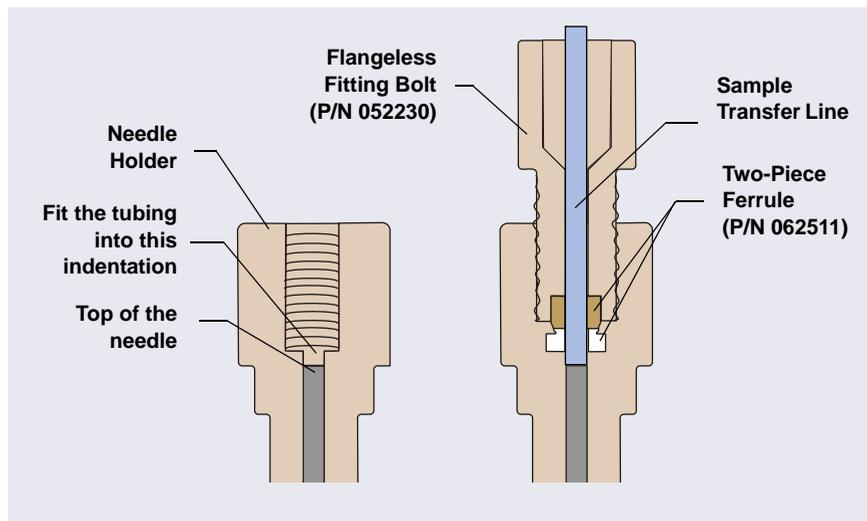

Figure B-31. Cross-Section of Needle Holder and Sample Transfer Line Fitting
- e. Insert the tubing down into the center of the needle holder. When you insert the tubing, you should feel the tubing drop into a small indentation inside the holder (see Figure B-31). If not, move the tubing slightly until it does.